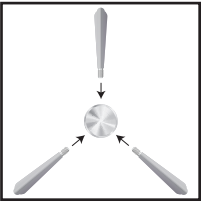

Figure 4.1
Insert the three (3) spindles into the holes located on the side of the handle and screw to the right (clockwise) by hand until they are snug in the handle (Figure 4.1).